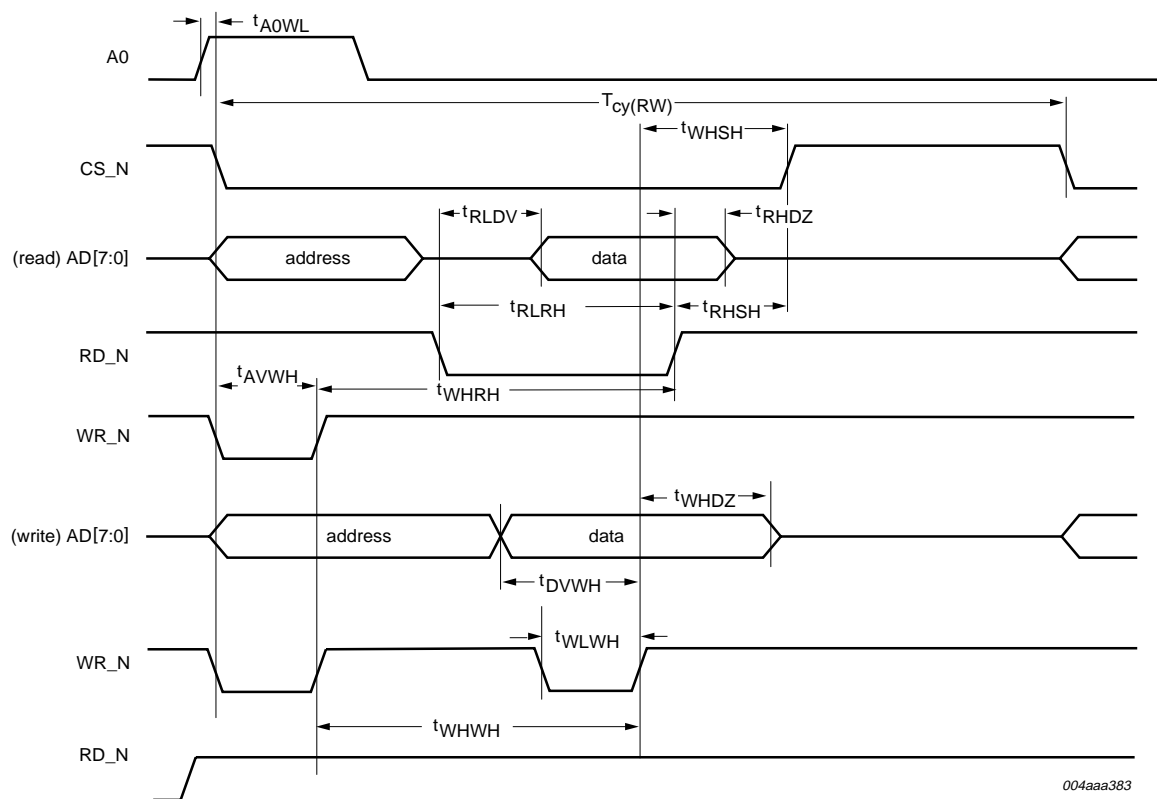

Fig 26. ISP1583 register access timing: multiplexed address/data bus (A0 function and 8051 style).
- MODE0 = H: 8051 style; see Figure 26